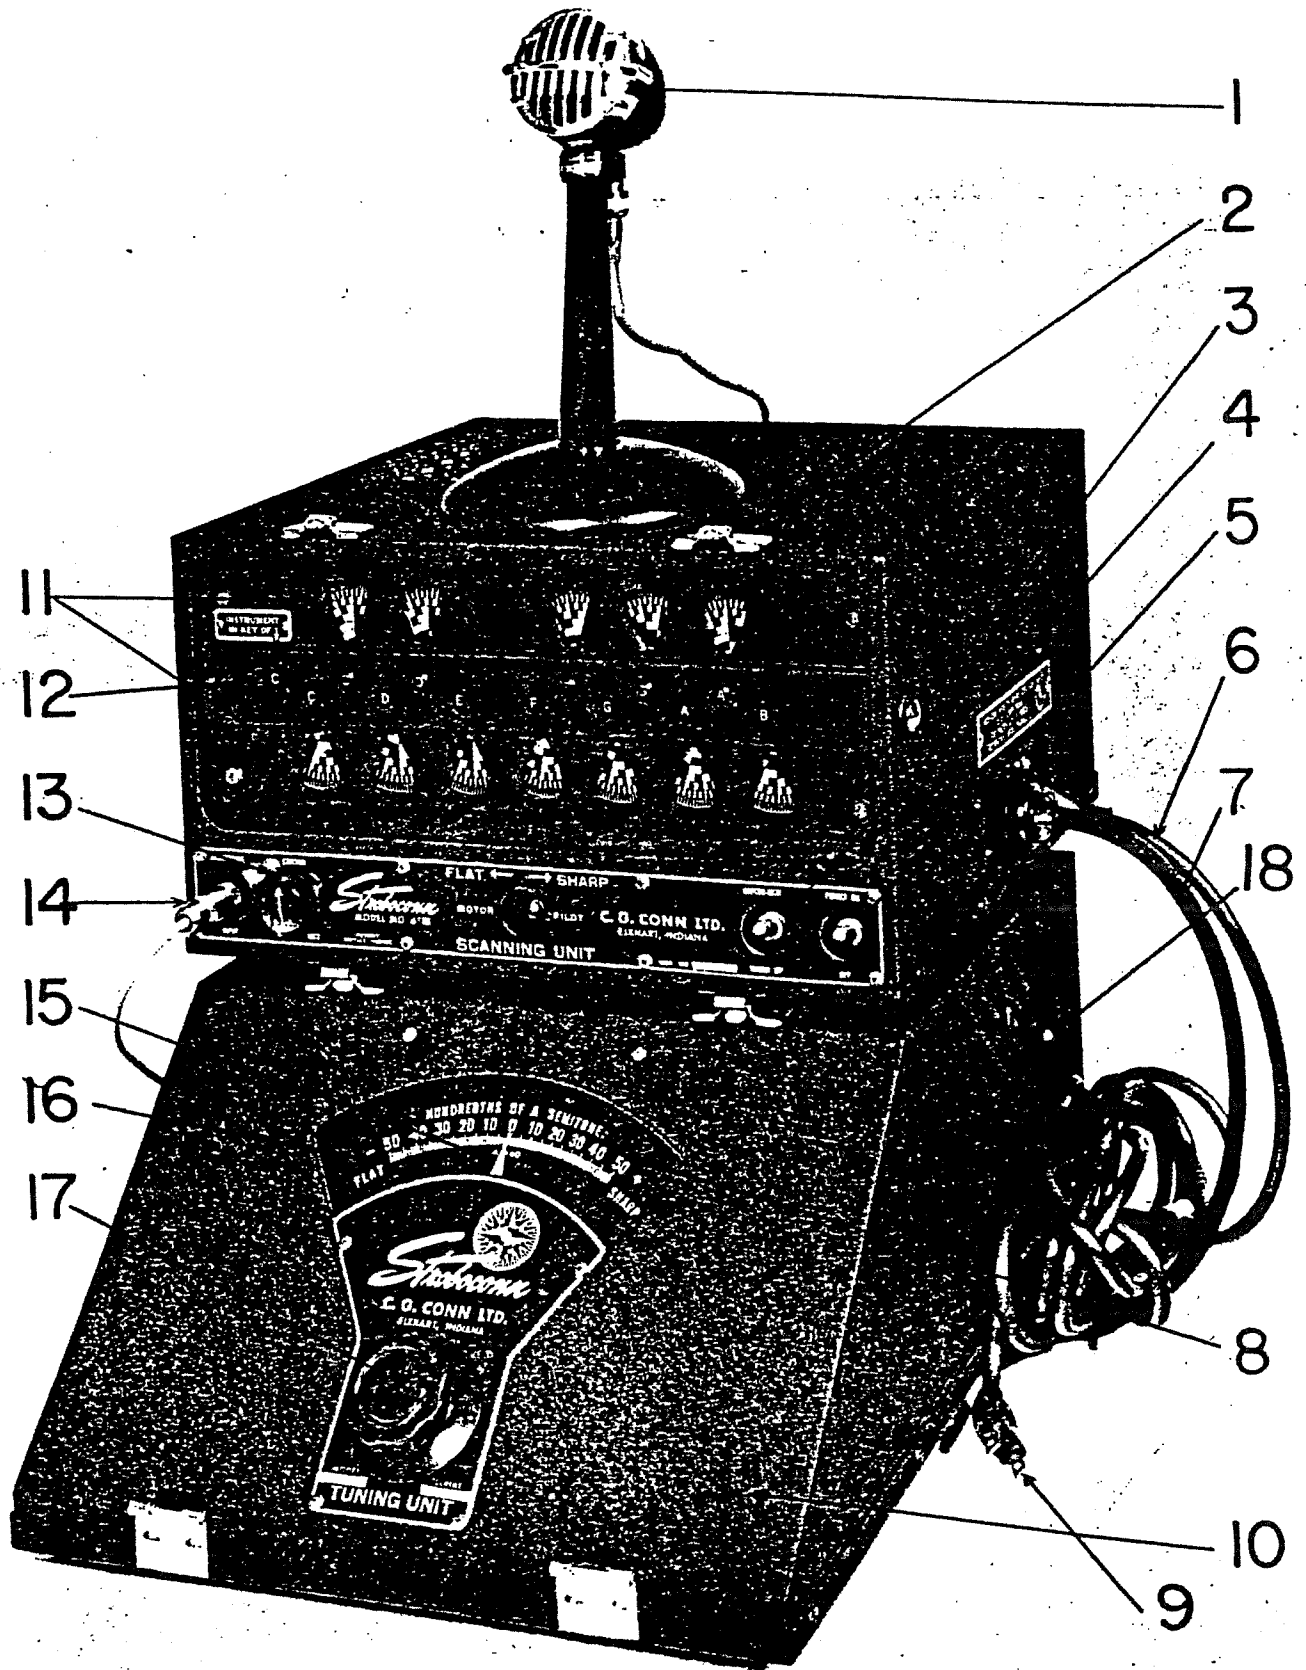

Figure 1—The Complete Strobeconn, Model 6T-5
1. The complete Strobococonn is made up of one encased Scanning Unit, one encased Tuning Unit, one desk-type microphone, and the necessary interconnecting electrical and 105-120 v. AC power cables. (See *Figure 1.*) Power requirement, 215 watts.
a. As may be seen from the illustration in *Figure 1*, the Scanning Unit of the Strobococonn has in its front side twelve windows occupying positions corresponding to the white and black keys of the piano in an octave from C to B. The twelve notes of the chromatic octave are thus represented. Sound picked up by the microphone causes whirling stroboscopic disks in these windows to become illuminated by a neon tube whose rate of flashing corresponds exactly to the frequency of the tone sounded.
e. The fundamental of any one tone, if unknown, may be located by looking for the black-spoked band that appears nearest the apex in any of the twelve wedge-shaped windows of the Scanning Unit. If the fundamental of the tone is known, such procedure is unnecessary, as each of the twelve windows is labeled as to the note it represents and measures. These window markings can be changed, however, to correspond to the key of the instrument whose tones are being tested. This is accomplished by use of the transposing knob on the right side of the Scanning Unit. At the extreme left of the twelve window labels is a small opening wherein the key signature is displayed. (See *Item 12, figure 1.*) By pulling out the transposition knob to different positions the Strobococonn windows can be labeled to read correctly in the keys of C, D $\flat$ , E $\flat$ , F, and B $\flat$ , the commonly used key signatures. Thus when the Strobococonn is set to read in the key of F, for instance, C appears as a label for the window which is marked F when the Strobococonn is set to read in the key of C.
f. By observation of the Scanning Unit, the operator discovers instantly whether a tone is in tune, sharp or flat. No mathematical computations are necessary. If the black-spoked pattern in the window representing this tone stands still when the Tuning Unit is tuned to "O" (See Figure 1), the note is in tune to 1/100th part of a semitone, according to the American Standard of A-440. (See Section V, paragraph 3, a.) If the pattern drifts to the operator's right, the tone is sharper than standard. If the pattern drifts to the operator's left, the tone is flatter than standard. Indication of relative sharpness or flatness is also immediately discernible from the speed of drift, which increases both directions from standard.
a. The Stroboconn Tuning Unit is calibrated, by means of a pointer and dial, from 50 cents (50/100th of a semitone) flat of the standard fundamental to 50 cents sharp . . . a span of one semitone. (See Figure 1.)
c. Measurement is accomplished by means of an electrically-driven variable tuning fork made of a special metal, Connivar, which is very little affected by temperature. This tuning fork's rate of vibration varies with movement of the Tuning Knob (See Item 17, figure 1), and controls the speed of the synchronous motor which drives the whirling stroboscopic disks in the Scanning Unit.
(1) The Stroboconn interconnection cable is supplied to couple the Scanning Unit with the Tuning Unit. It is equipped with three-prong connectors that make connection foolproof. (See 7, figure 1.)
1. Set up the two cases comprising the Strobocconn on their wide sides. Unlatch covers and lift off. Remove cables and microphone from compartment in Scanning Unit case cover. Arrange units as shown in Figure 1, or place Scanning Unit and Tuning Unit side by side.
2. Attach inter-connection, power, and microphone cables as shown in Figure 1.
3. When all connections are made, turn volume control of Scanning Unit to MAX. Depress Scanning Unit Motor Switch (*Item 4, figure 1*) to WARM-UP position. Lift Power Switch (*Item 5, figure 1*) to POWER position. When neon Motor Pilot light glows steadily (about 45 seconds), lift Motor Switch to MOTOR RUN position. This energizes the flashing amplifier. After about 30 seconds, sounds reaching the microphone should cause the windows of the Scanning Unit to become illuminated for the duration of the sound. Once in a great while, the Motor Pilot light may blink after the Motor Switch is lifted to running position. This may indicate that the motor is not running in synchronism with the fork. The blinking should stop in less than a minute. If it does not, depress this switch to WARM-UP position for another period of 45 seconds. A longer warm-up time is sometimes necessary if the Strobocconn has been subjected to extremely cold temperatures. Should the Motor Pilot refuse to glow steadily after the instrument is thoroughly warm, check the power source to see that sufficient voltage is being supplied. (See Section VI, paragraph 5: a, (2) (a); b (1) (a), (2) (a).
the Stroboconn Tuning Unit. The Tuning Unit of the Stroboconn houses an extremely temperature-stable Connivar tuning fork. At "O" setting of the Tuning Unit (See Figure 1), this fork vibrates at 55 cycles per second, and is used to control the frequency of the power supply to the synchronous motor that drives the twelve stroboscopic disks in the Scanning Unit.